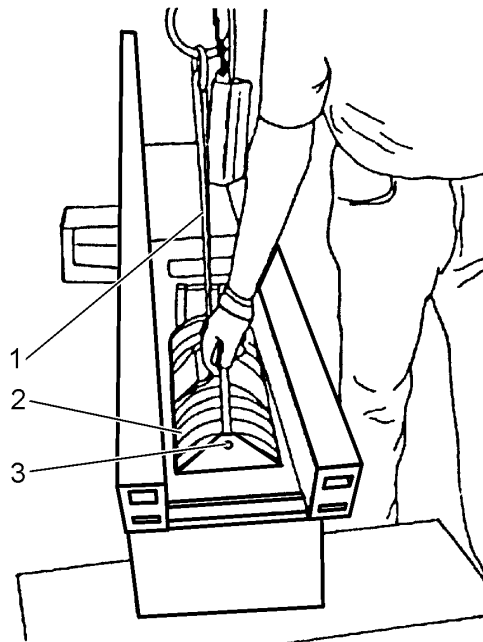

Fig. 14.47. Lifting Sling Installation
15. Position lifting sling (1, Fig. 14.47), centering around track spring (2) and attach to hoist. Remove locating bolt and nut (3).